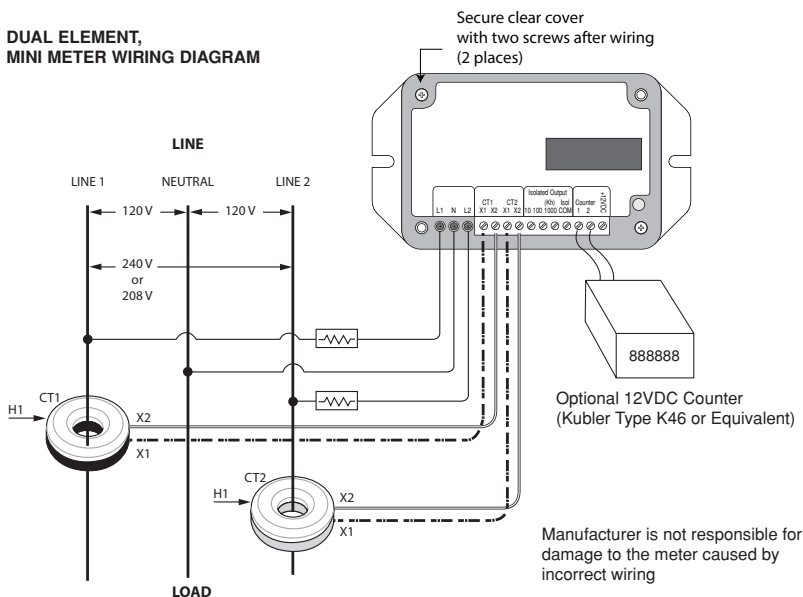

Figure 7 - Dual and single element Mini Meter hookup diagram
3. Connect 18 AWG min., 300 V min. insulated wiring for Line voltages and Neutral to the appropriate locations in the breaker panel, in accordance with all national and local electrical codes; see Figure 7 for wiring diagram.